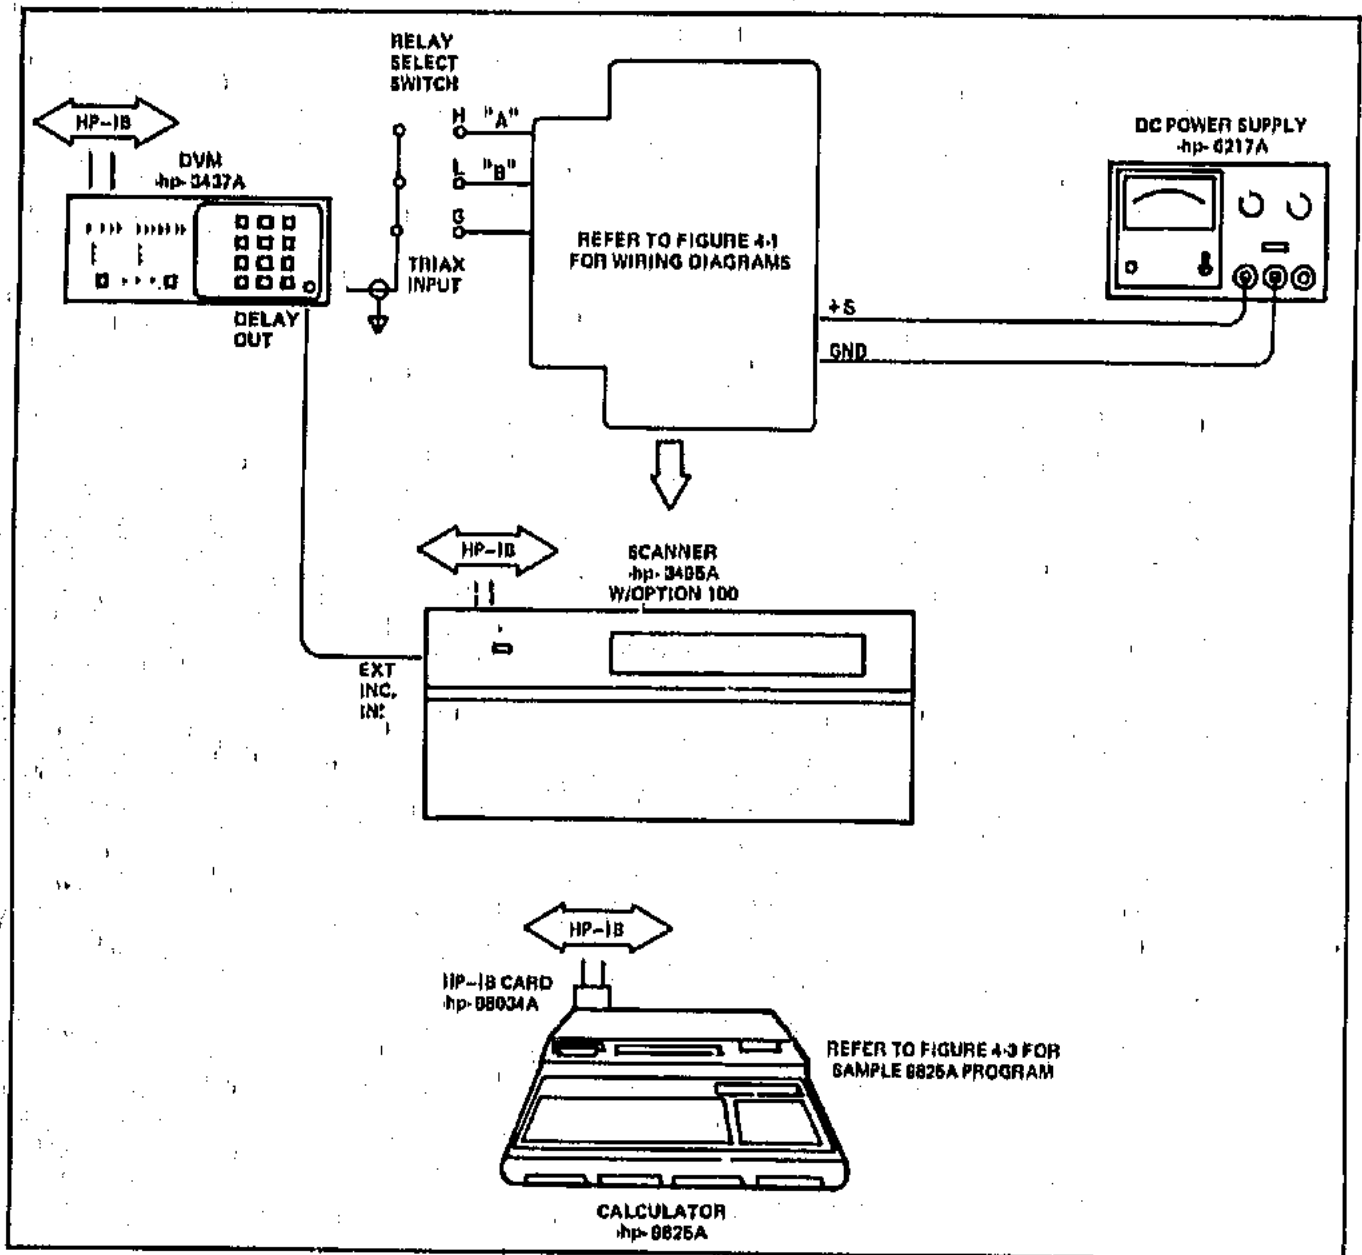

Figure 4-2. Switching Time Test Setup.
- Connect the test setup as shown in Figure 4-2.